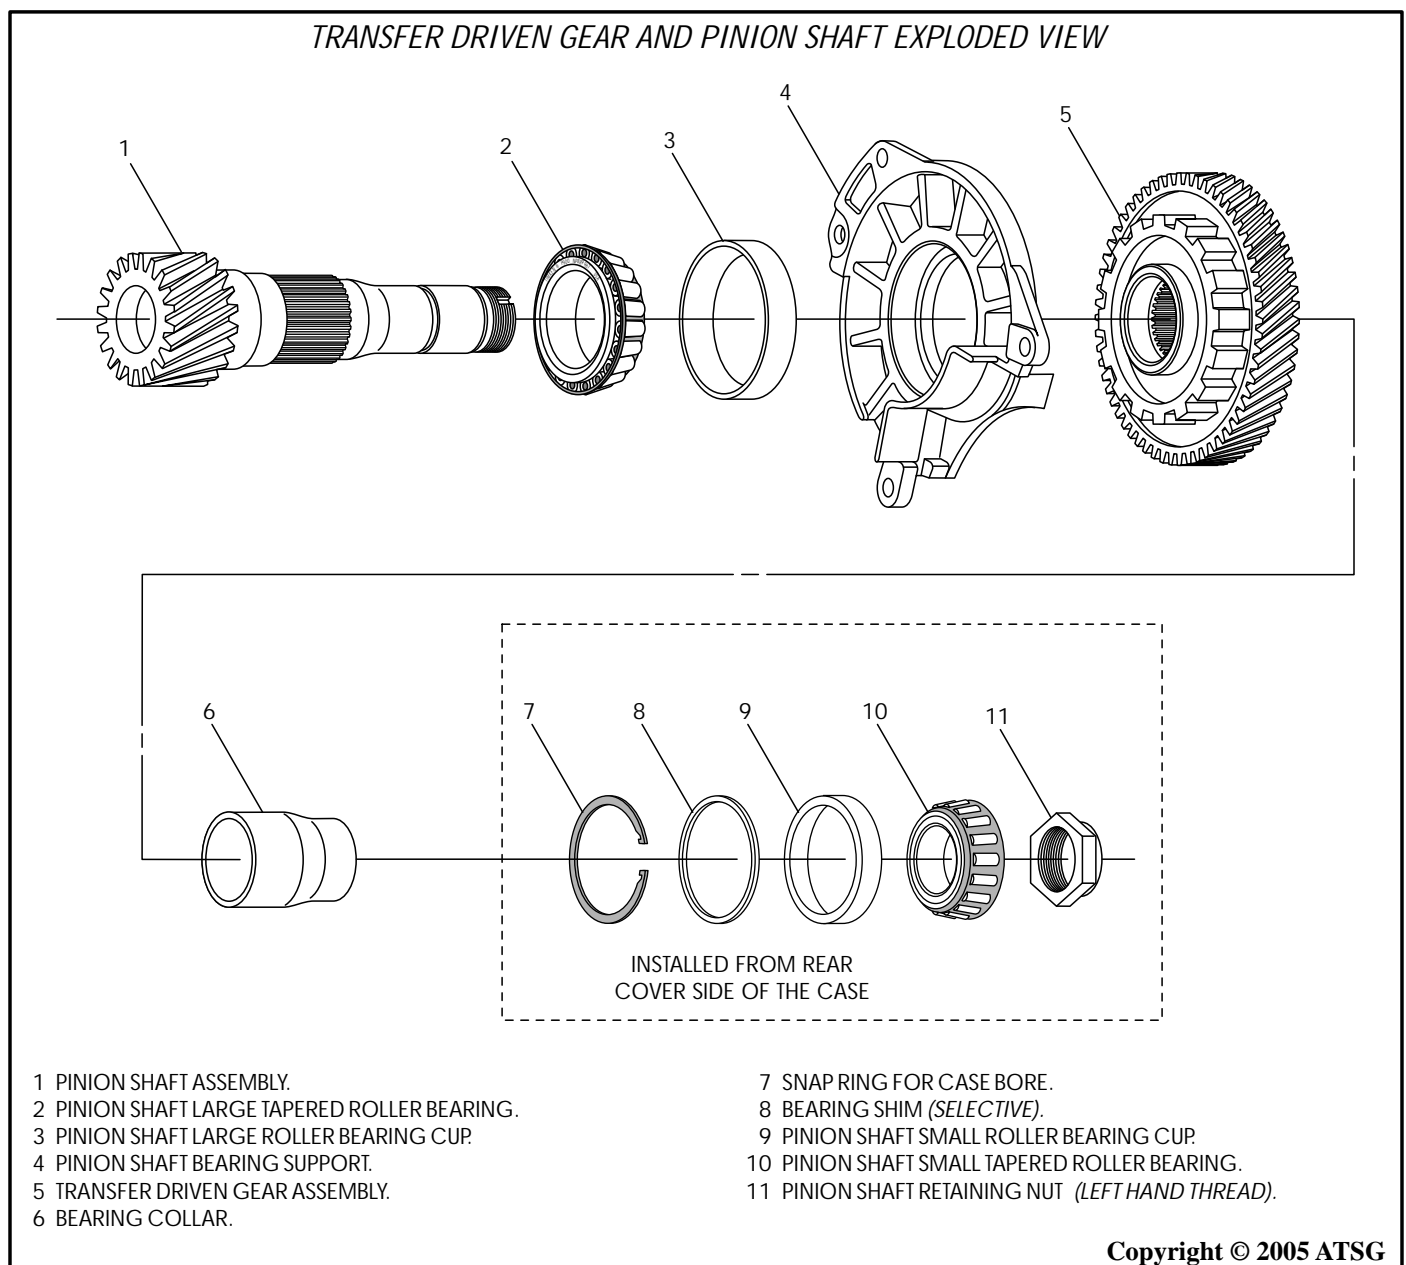

Figure 65
1. Disassemble the transfer driven gear and the pinion shaft assembly using Figure 65 as a guide.